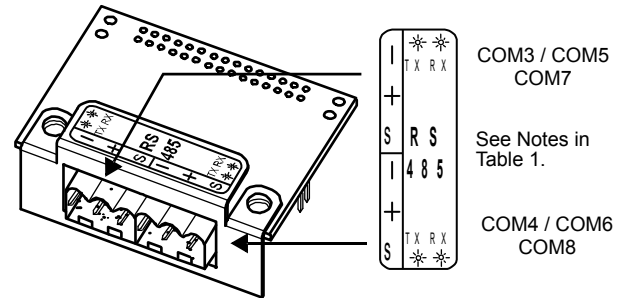

Fig. 1. NPB-2X-RS485 option card, ports, and labelling.
To connect to an RS-485 multipoint network, use one of the 3-position screw terminal connectors with shielded 18 to 22 AWG wiring. Refer to the TIA/EIA-485 standard for more details. Screw terminals are minus (-), plus (+), and shield (S), as indicated on the NPB-2X-RS485 end plate label. See Fig. 1 on page 1.
Four LEDs are visible on the top of the NPB-2X-RS485 option card (cover must be removed from controller). They are also noted on the label as TX and RX. See Fig. 1 on page 1.